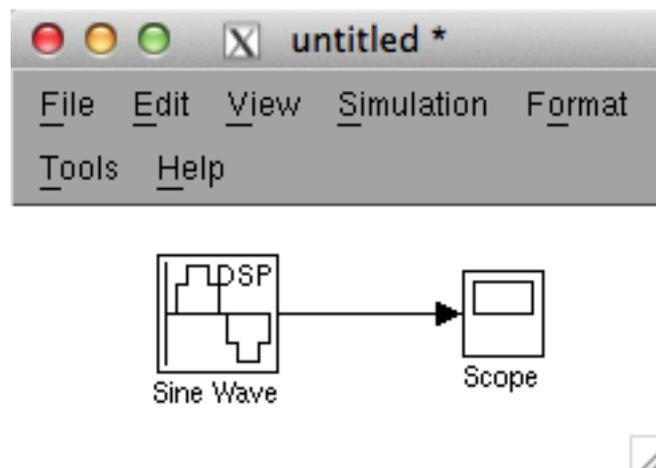

Figure 5. Completed System for Viewing Sine Wave
- Next we want to connect the Sine Wave to the Scope block. Move the mouse over the output terminal of the Sine Wave block until it becomes a crosshair. Click and drag the wire to the input terminal of the Scope block. The cursor will become a double cursor when it is in the correct position. Release the mouse button and the wire will snap into place. Your completed system should now appear as shown in figure 5.